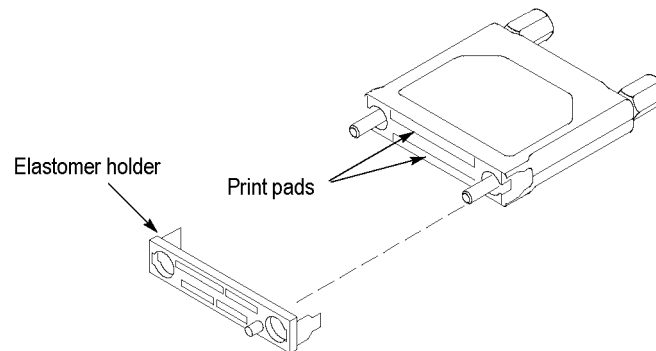

Figure 7: Cleaning the probe heads
1. Remove elastomer holder. (See Figure 7.)